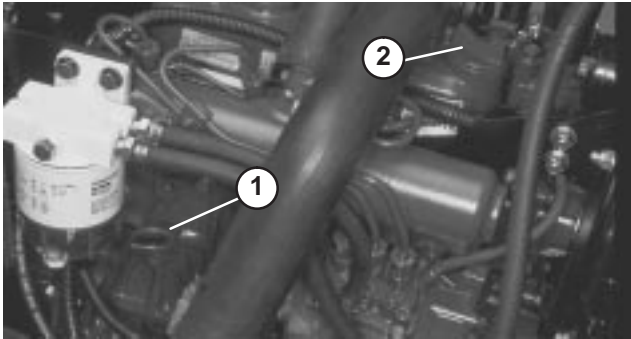

Figure 14
2. Remove dipstick, wipe clean and reinstall dipstick. Remove dipstick and check oil level on dipstick; Oil level should be up to the **full** mark (Fig. 14).
3. If oil is below **full** mark, remove fill cap and add SAE 10W-30 CD, CE, CF, CF-4 or CG-4 classification oil until level reaches **full** mark on dipstick (Fig. 14). **Do not over fill.** Crankcase capacity is 128 ounces (3.8 l) with filter.